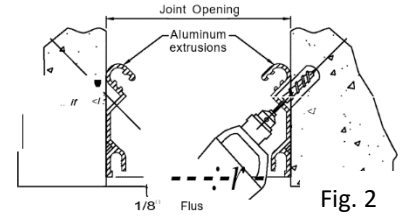

Fig. 2
4. Position aluminum extrusions and mark hole locations. Drill holes through aluminum flange and into walls for 3/16" @ 18" on center (Fig. 2).